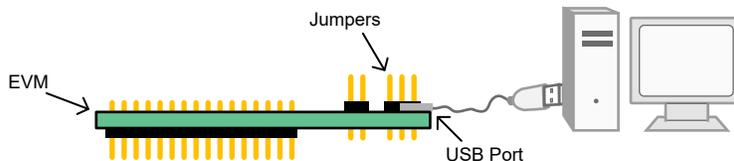

Figure 2-2. Hardware Setup
The USB connection generates 5-V of power for use as the DAC supply voltage (VDD). The on-board controller supplies 3.3-V of power for the input/output (IO) signals from the controller. These IO signals are level translated to the VDD voltage of the DAC. Figure 2-2 displays the system hardware setup.